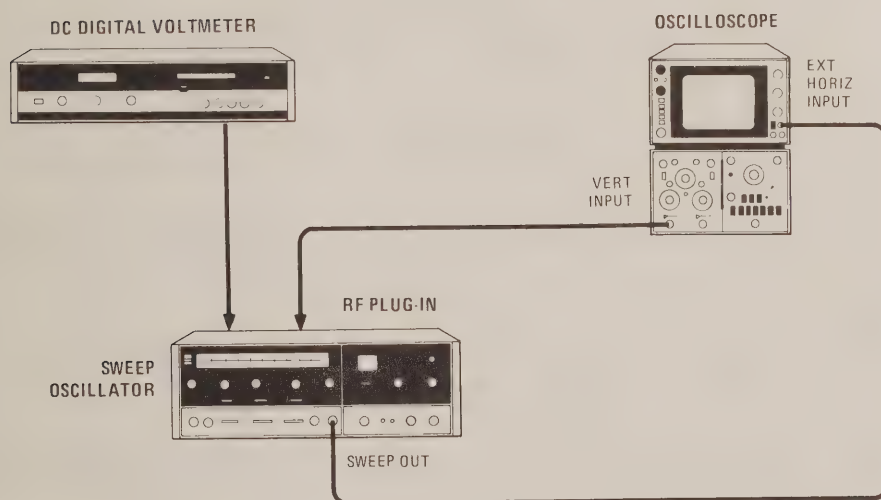

Figure 5-1. Adjustment Test Setup
DESCRIPTION: The A4 and A5 Regulator Assemblies are adjusted to provide the proper dc voltages for the 8620C Sweep Oscillator and RF units connected in the mainframe. (See Figure 5-1 for test setup.)
DESCRIPTION: Fan Speed and ON/OFF ratio are adjusted for maximum efficiency (see Figure 5-1 for test setup).
- DESCRIPTION: 1 kHz Oscillator is adjusted for proper operating frequency (see Figure 5-1 for test setup).
- DESCRIPTION: Set correct sweep time, sweep return time, symmetry, and range of RF Blanking signal (see Figure 5-1 for test setup).
- a. Connect equipment as shown in Figure 5-1.